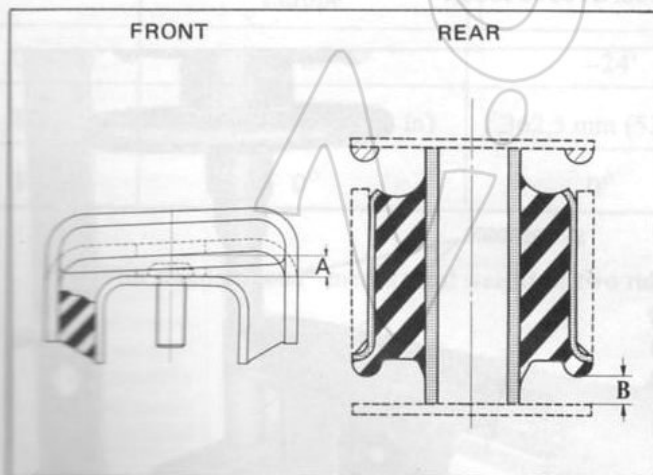

Fig. RA-7 Sectional view of the differential mount insulator
2. Replace the differential mount front insulator with a new one, if the dimension "A" (Figure RA-7) is 9 mm (0.3543 in) or greater, 2 mm (0.0787 in) or smaller. (unloaded)
3. Replace the differential mount rear insulator with a new one, if the dimension "B" (Figure RA-7) is less than 5 mm (0.1969 in). (unloaded)